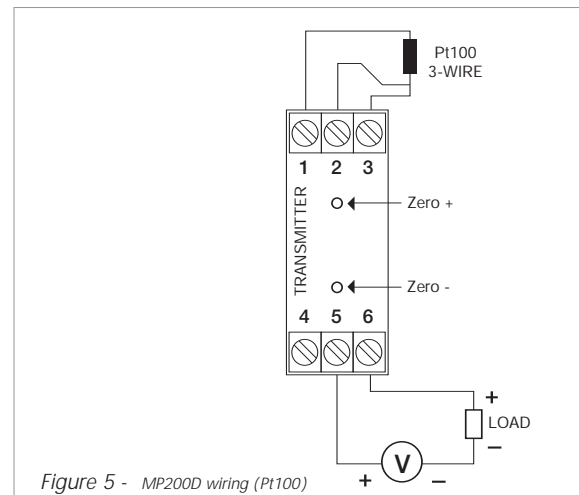

Figure 5 - MP200D wiring (Pt100)
*Figure 5* shows the MP200D connections to the sensor and power supply. Terminals 1, 2 e 3 are used for sensor input. For 2-wire Pt100, terminals 2 and 3 shall be connected together.